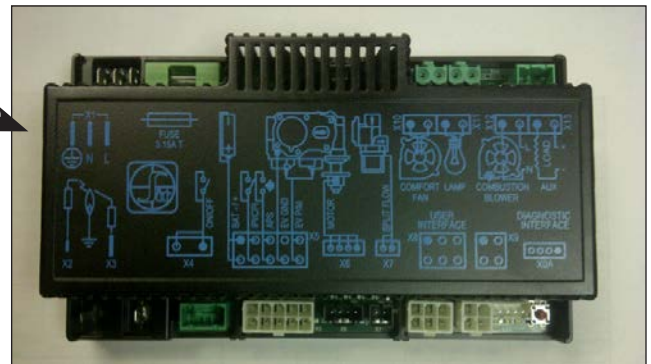

Figure 8: Integrated Fireplace Controller
The Proflame 2 IFC (Figure 8) connects directly to the gas valve, stepper motor, pilot, convection fan, and accent lights with wiring harnesses. The IFC is mainly powered by 120 VAC but can also run off a battery backup four (4) AA type batteries for shorter periods of time. The IFC accepts commands via radio frequency from the Transmitter to operate the appliance in accordance with the particular Proflame 2 system configuration.